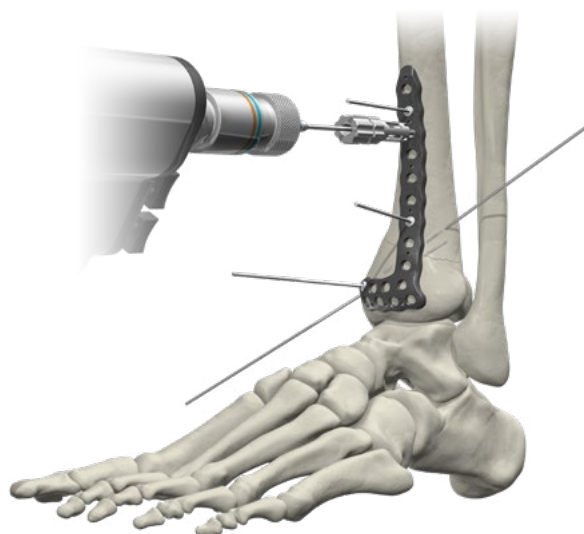

FIGURE 49
5. To place screws, drill through the Drill Tower at the desired angle of approach using the drill size that corresponds to the desired screw diameter (**FIGURE 49**).